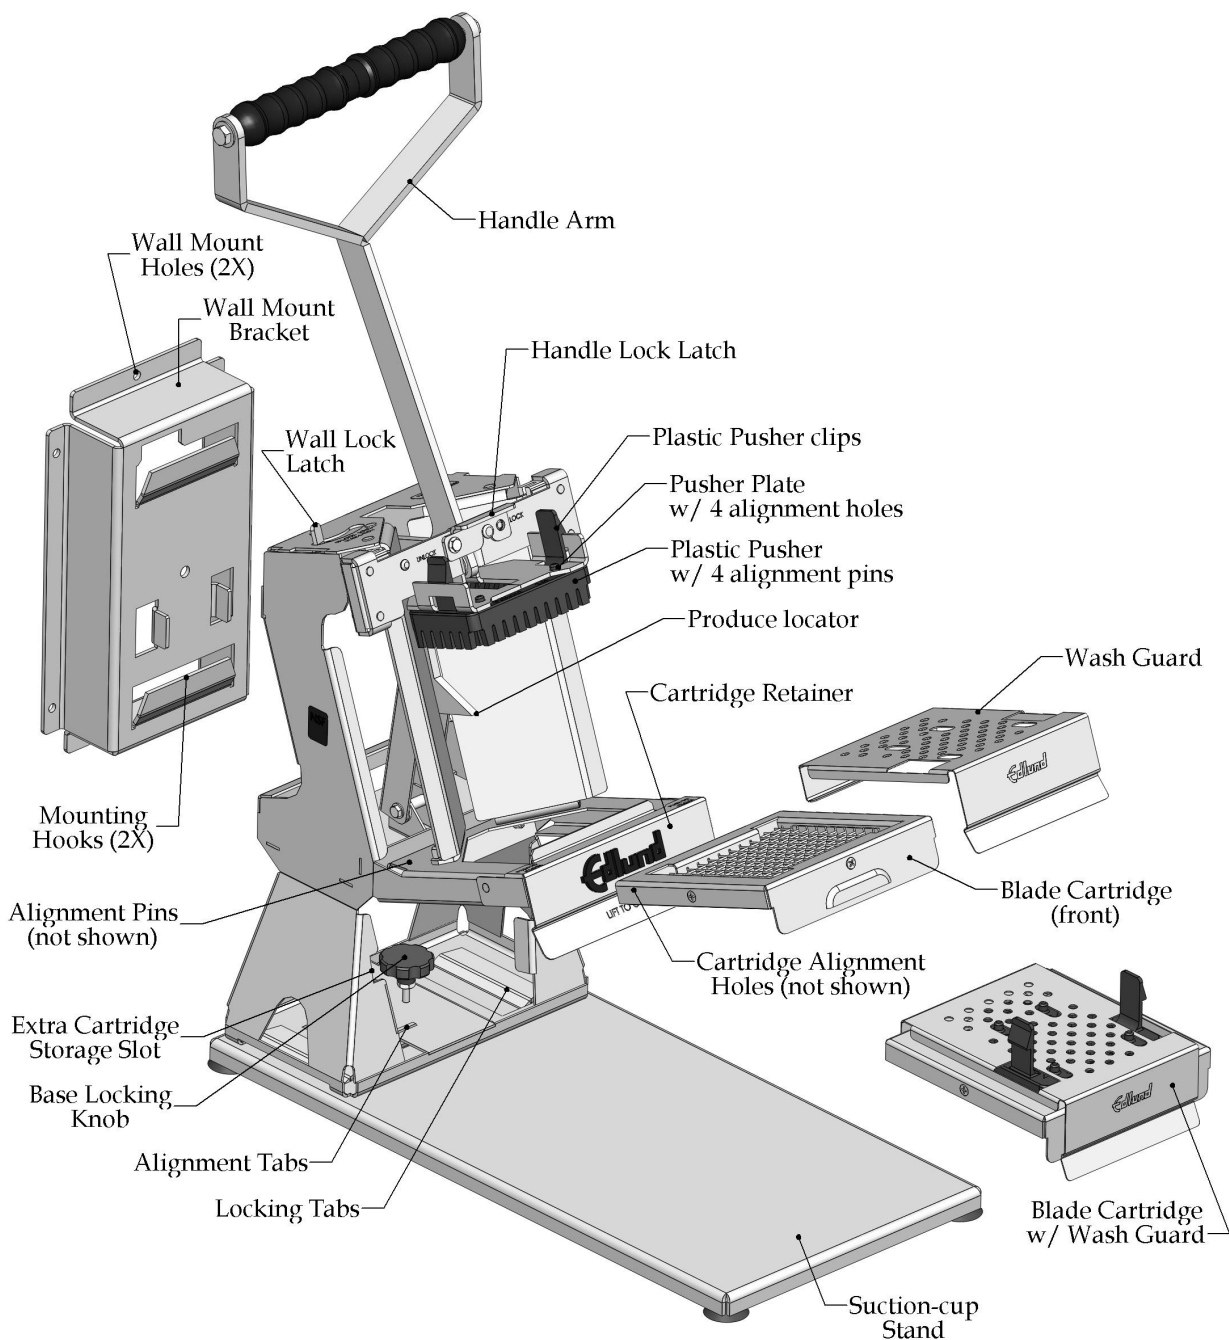

Figure 2
This chapter covers the procedures for operating your new Edlund TITAN Max-Cut and discusses basic operation features. You may find it helpful to review the Features in *Figure 2* on page 11.
3. Engage the Handle lock Latch by rotating clockwise (*Figure 2* on page 11).
4. Open the Cartridge Retainer (*Figure 2* on page 11) by rotating it up. Orient the selected Blade Cartridge and slide it into the Max-Cut. The Blade Cartridge can only go into the unit in one orientation, with the Front Flange down and the Cartridge Alignment Holes towards the back of the unit.
5. Make sure the Cartridge Alignment Holes (*Figure 2* on page 11) are fully seated on the Alignment Pins in the Max-Cut unit.
1. Remove any Blade Cartridges from the Extra Cartridge Storage Slot (*Figure 2*, page 11). See "Using the Extra Blade Cartridge Storage Slot" for instructions.
3. Rotate the Handle Lock Latch (*Figure 2*, page 11) clockwise to secure the Handle in the upright position.
4. Place the Max-Cut on the Suction-Cup Stand, positioning the Locking Tabs (*Figure 2*, page 11) on the Stand within the corresponding notches in the Max-Cut Base.
5. Slide the Max-Cut to the left until the Alignment Tabs (*Figure 2*, page 11) fully engage with the notches in the Base of the Max-Cut.
6. Turn the Base Locking Knob (*Figure 2*, page 11) clockwise until it is tight against the Base of the Max-Cut.
2. Remove any Blade Cartridges from the Extra Cartridge Storage Slot (*Figure 2*, page 11). See "Using the Extra Blade Cartridge Storage Slot" for instructions.
4. Rotate the Handle Lock Latch (*Figure 2*, page 11) clockwise to secure the Handle in the upright position.
5. Unscrew the Base Locking Knob (*Figure 2*, page 11) until it disengages from the Suction-Cup Stand.
3. Rotate the Handle Lock Latch (*Figure 2*, page 11) clockwise to secure the handle in the upright position.
4. Ensure the Wall Lock Latch (*Figure 2*, page 11) is not engaged by rotating counterclockwise, to the unlock position.
5. Align the Mounting Hooks (*Figure 2*, page 11) with the Notches on the Rear of the Max-Cut.
7. Rotate the Wall Lock Latch (*Figure 2*, page 11) clockwise to engage with the Wall Mount Bracket.
1. Remove any Blade Cartridges from the Extra Cartridge Storage slot (*Figure 2*, page 11). See "Using the Extra Blade Cartridge Storage Slot" for instructions.
4. Rotate the Wall Lock Latch (*Figure 2*, page 11) counterclockwise to disengage from the Wall Mount Bracket.
NOTE: The model shown in Figure 2 may look slightly different from your Max-Cut.
2. Rotate the Handle Lock Bracket (*Figure 2*, page 11) clockwise to secure the Handle in the upright position.
3. Pull the Bottom Flange of the Cartridge Retainer (*Figure 2*, page 11) upward to disengage from the Blade Cartridge. Rotate the Cartridge Retainer upward until it is clear of the Blade Cartridge.
5. Remove the Pusher Assembly by unclipping the two side Pusher Clips (*Figure 2*, page 11). Squeeze the clips together and slide the Plastic Pusher down, away from the bottom of the Pusher Plate.